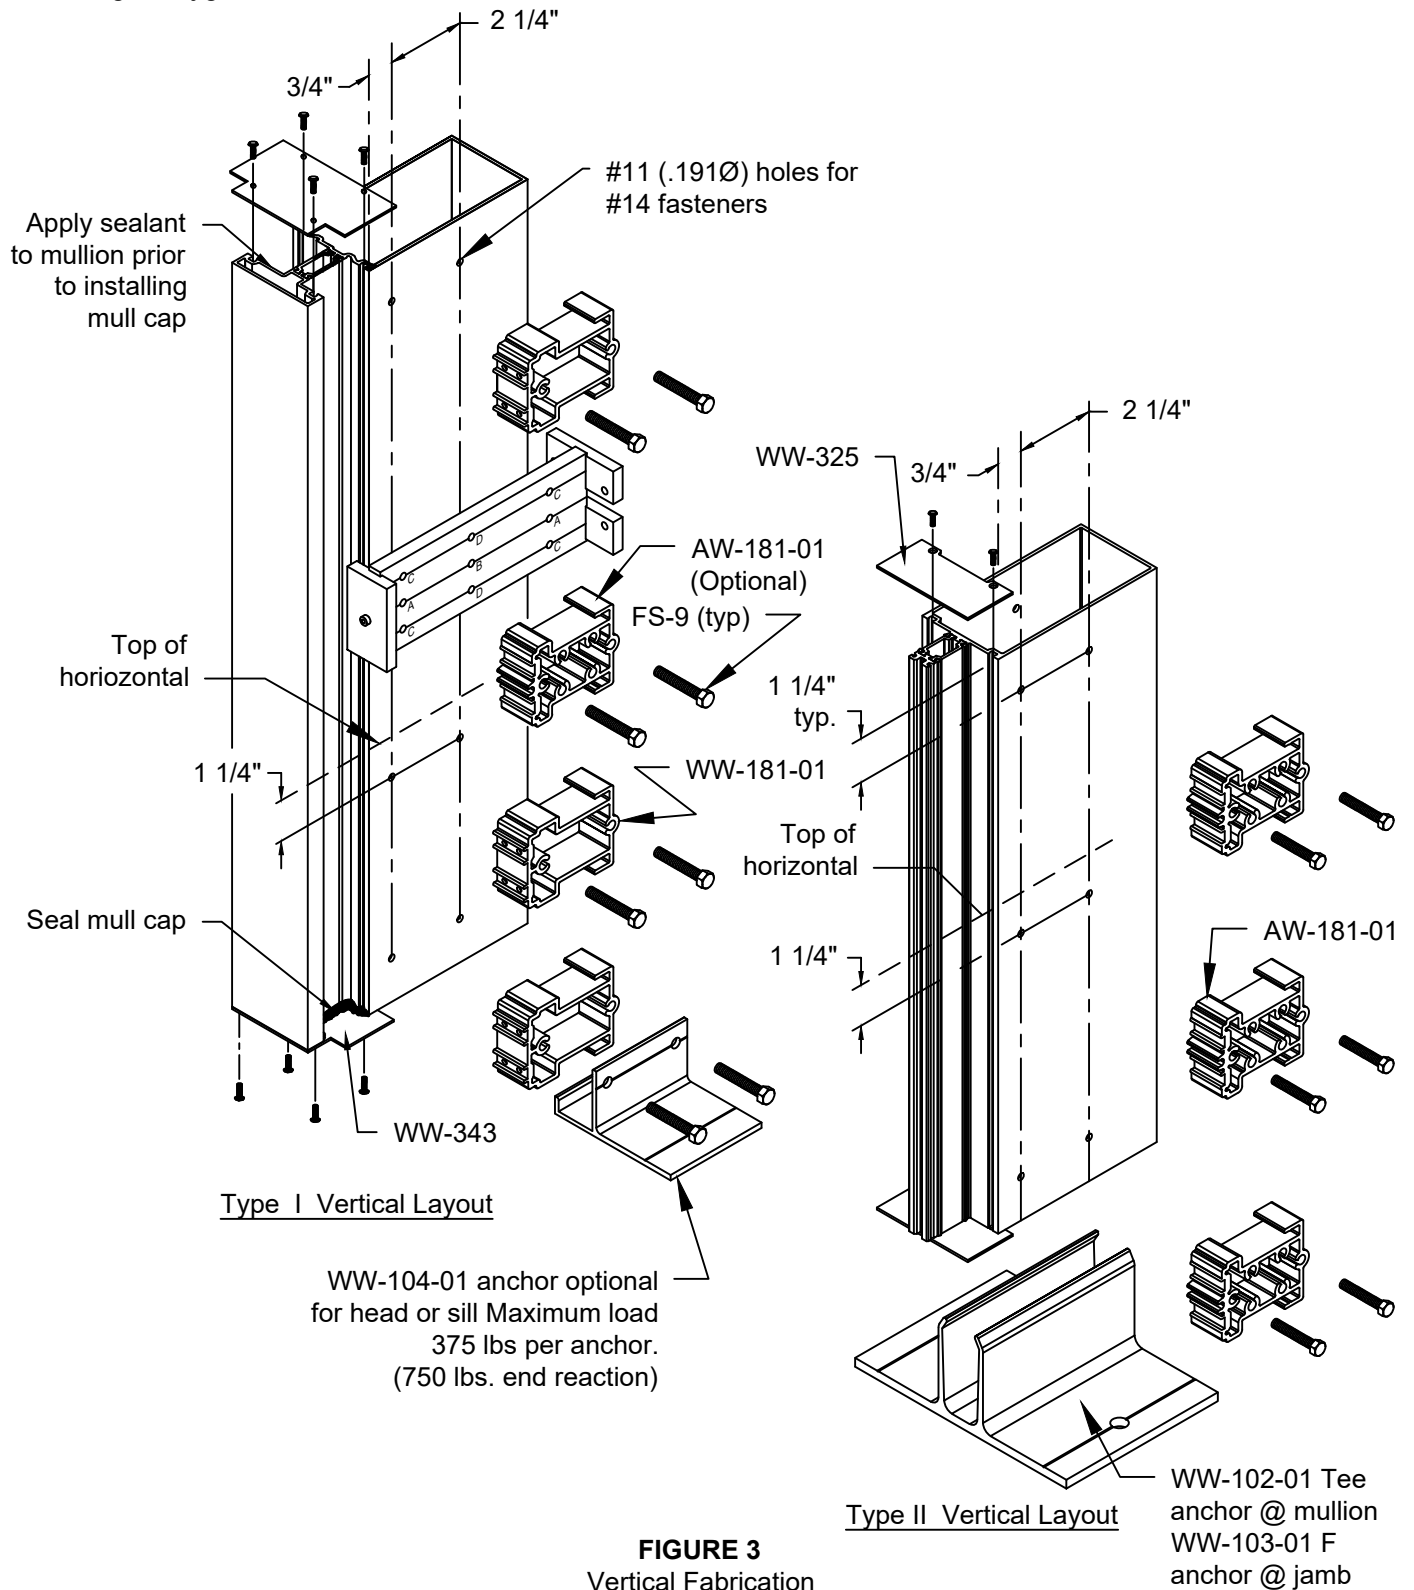

FIGURE 3
- 1.3 Fabricate vertical mullions for horizontal members using the DJ-100 drill jig. Drill holes for shear block using holes marked "A" and "B". **SEE FIGURE 3.** When working off horizontal centerlines, use the scored lines to align the jig with the centerline.
- 1.4 Install and seal end caps to top and bottom of all jamb and intermediate vertical mullions with FS-320 #10 x 1/2" drive screw. Cap seal FS-320. **SEE FIGURE 3 page 10.**
2.1.10 Attach shear blocks to all vertical members. **SEE FIGURE 3, page 10** for proper orientation on mullion.